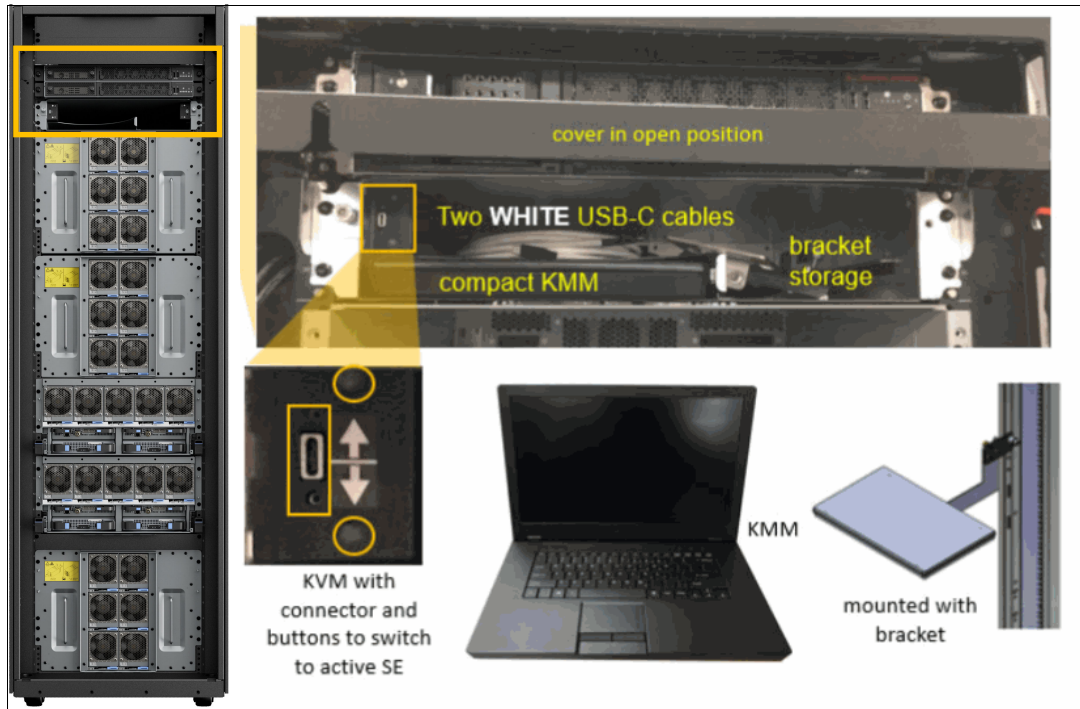

Figure 10-16 HMC / SE KMM device
The KMM device information for the IBM z16 A02 are shown in Figure 10-16 on page 410.
- ▶ Switching between servers is done by using buttons next to the USB-C port (see Figure 10-16 on page 410). The KMM screen also indicates which server is selected